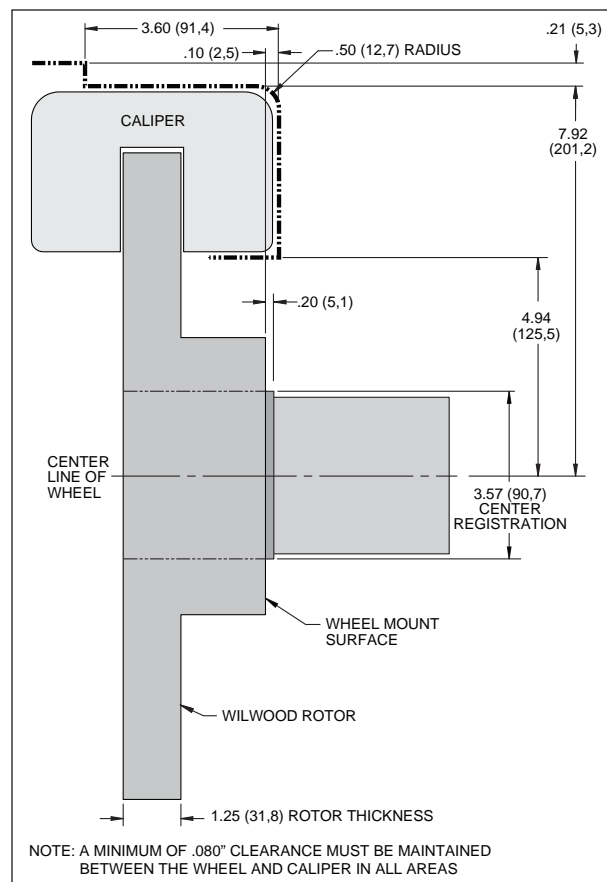

Figure 2. Wheel Clearance Diagram
- Review the Wheel Clearance Diagram (Figure 2, page 3) to verify that there is adequate clearance with the wheels you will be using with the installation.
- Verify your wheel clearance using Figure 2.
- **CAUTION:** Wheel fitment to OEM hub interference must be checked. There is a 3.57" diameter step on the hub face that was used to register the old brake drum (Figure 2). Be sure your wheel fits flush against the hub face. If the step interferes, you will need to use a wheel spacer (customer supplied) to clear the step.
- Temporarily install the wheel and torque the lug nuts to the manufacturer's specification. Ensure that the wheel rotates freely without any interference. **CAUTION:** *Wheel fitment to OEM hub interference must be checked.* There is a 3.57" diameter step on the hub face that was used to register the old brake drum (Figure 2). Be sure your wheel fits flush against the hub face. If the step interferes, you will need to use a wheel spacer (customer supplied) to clear the step.
• **NOTE:** *OEM rubber brake hoses generally cannot be adapted to Wilwood calipers. The caliper inlet fitting is a 1/8-27 NPT. Install Wilwood's stainless steel braided flexline hose kit (22), P/N 220-13319 included with this kit. **Carefully route hoses to prevent contact with moving suspension, brake or wheel components.** NOTE: Wilwood hose kits are designed for use in many different vehicle applications and it is the installer's responsibility to properly route and ensure adequate clearance and retention for brake hose components.*